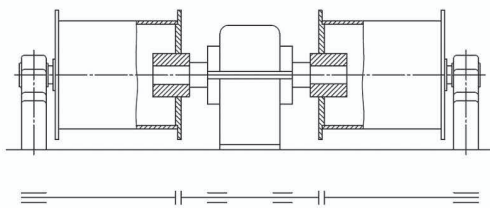

Fig. 1 Diagram of a twin-drum drive without built-in joint.
2. When the gear shaft is connected to hoisting drum with single or twin drive, three or four point mounting is required for a crane unit. Fig1 and 2 show the arrangement of a drum drive of a crane assembly. These types of connection require a considerable amount of cost and time to align the system.